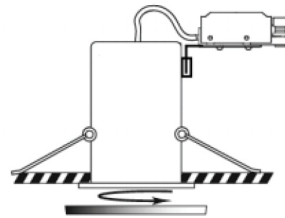

Fig. 5
- Remove the bezel by turning anti-clockwise (see Fig. 5), insert a suitable GU10 lamp into the bezel, and connect the lamp to the lamp holder